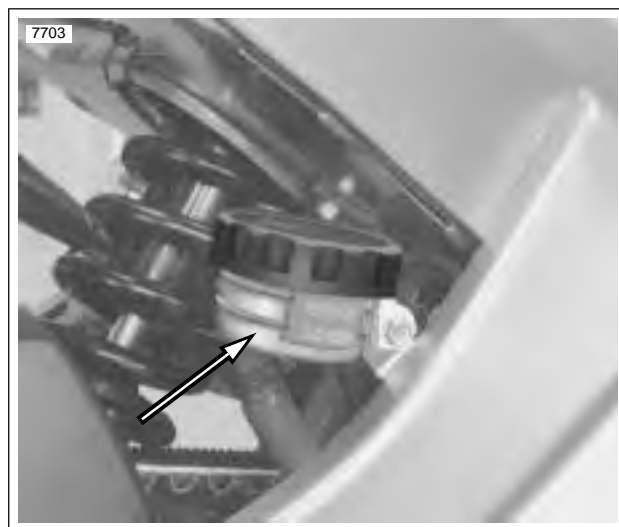

Figure 2-48. Remote Reservoir
5. See Figure 2-48. Detach remote reservoir.